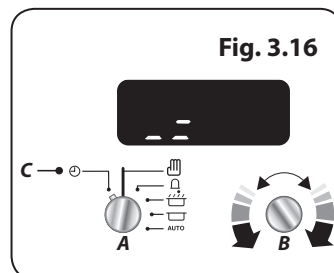

Fig. 3.16
To adjust the tone of the alarm, release the **Adjusting (B)** knob and then turn counter clockwise again (**Fig. 3.16**). The tone of the alarm will change. Repeat these steps until the desired alarm tone is set.